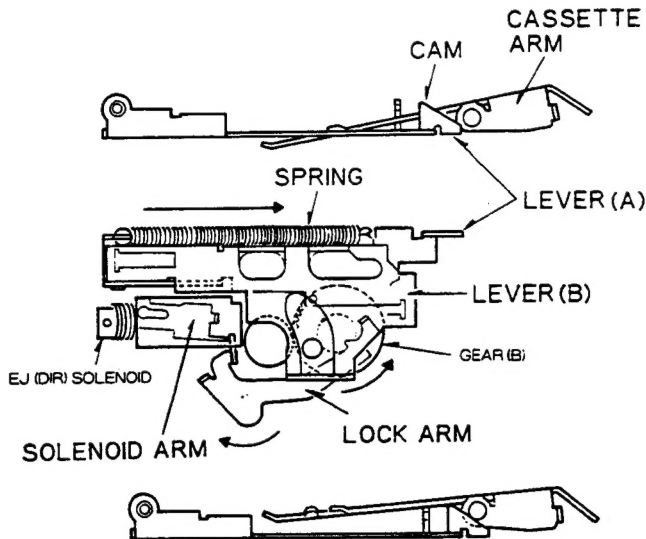

Fig. 26
The lever (A) is connected with the lever (B) via spring, and moves simultaneously to the right. A cam of the lever (A) pushes up a cassette arm and the lever (C) enters below a cassette arm roller to maintain the push-up height. (Fig. 26 ~ 28)